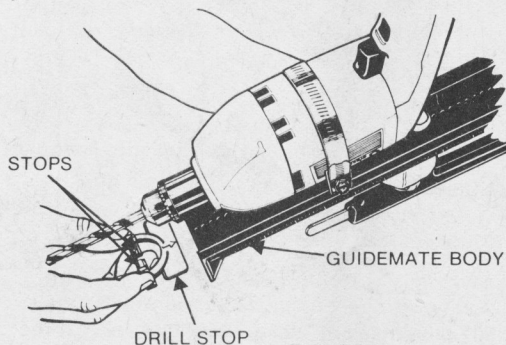

FIGURE 6
- Insert the depth stop into the slot in the Guidemate body Fig. 6 by squeezing the depth stop arms at the same time sliding the depth stop in the slots of the body.